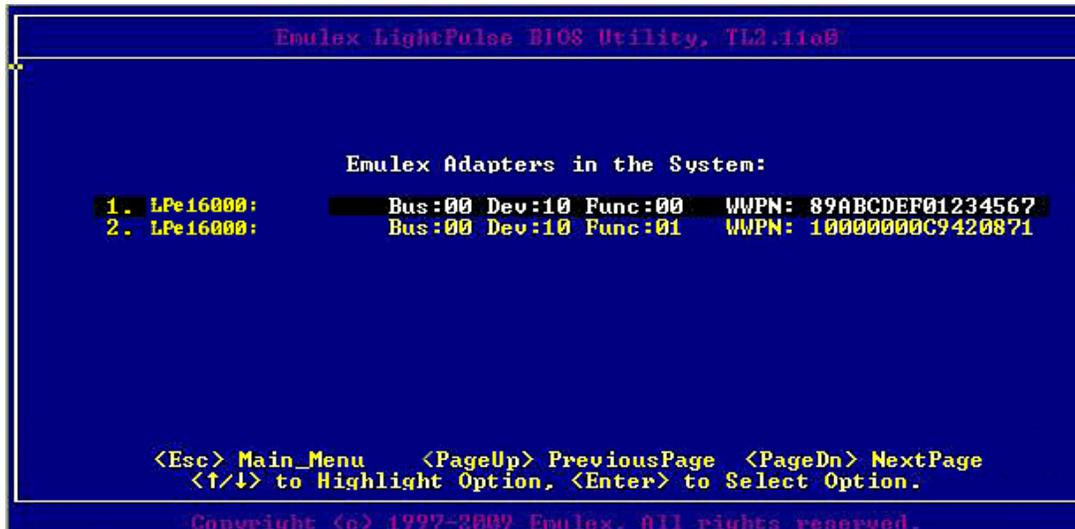

Figure 4-1 Adapter Listing Screen
1. Turn on the computer and press and hold down <Alt> or <Ctrl> and press <E> immediately (within five seconds) when the Emulex bootup message to enter the BIOS utility is displayed. An adapter listing screen is displayed (Figure 4-1 on page 26).